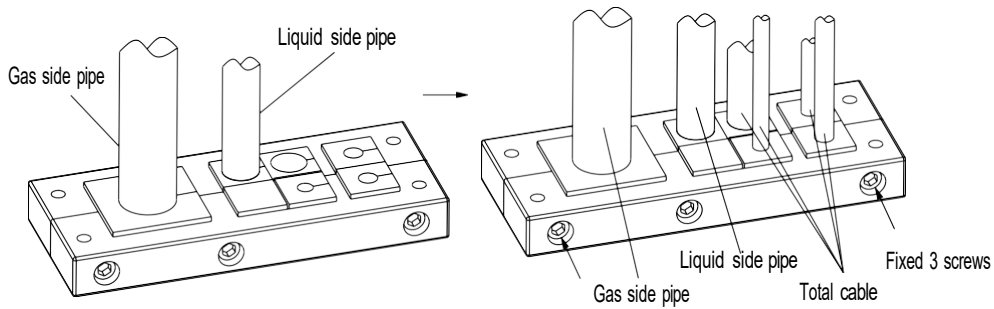

Figure 2-23 Fixing Pipes and Cables
- Finally, the two copper pipes with the sealing seat and other cables will be inserted into the fixing seat together, and the three screws are fixed, and the installation is completed. As shown in Figure 2-23.